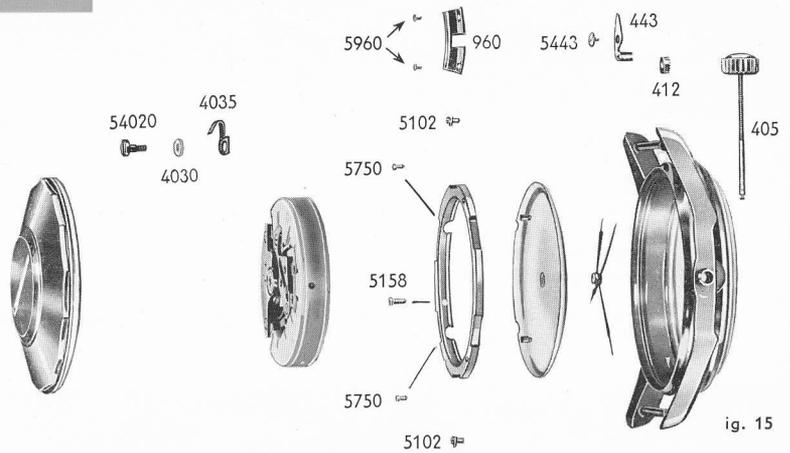

fig. 15
4. 1. Case with dry cell, fig. 15